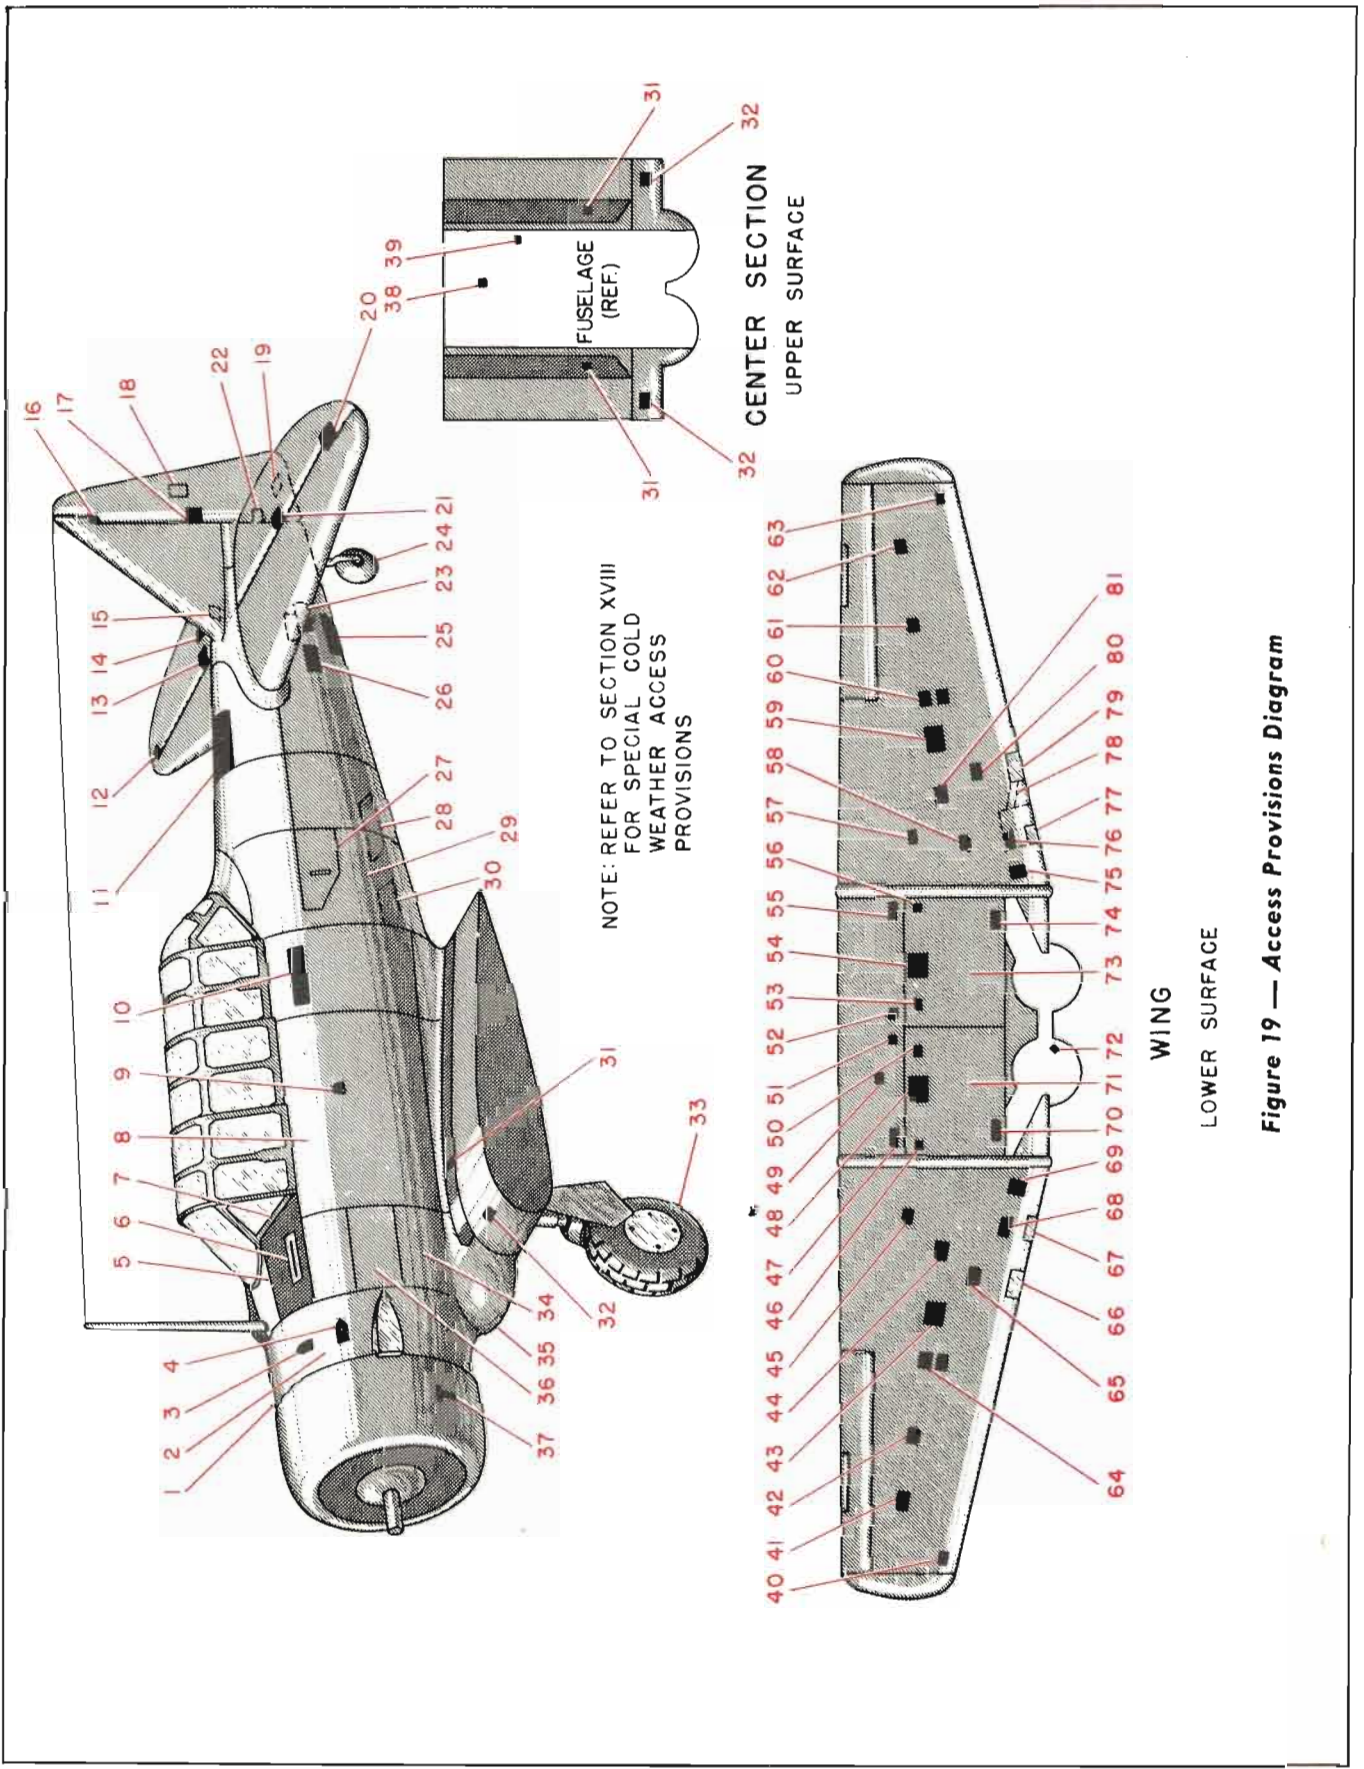

Figure 19 — Access Provisions Diagram
Key to Figure 19
The access provisions diagram, figure 19, includes a list of all access doors, covers, and parts accessible therein.
(3) DRAINING FUEL SYSTEM.—To drain the complete fuel system, remove the stand pipes and corrosion-resistant capsules from the two sumps. Open the drain cock at the fuel unit and at the bottom of the fuel selector valve. The latter is the lowest point in the fuel system when the airplane is in a three-point position. Access to the drain cocks is provided by means of Dzus-fastened access covers. (See figure 19.) Drain the carburetor. Clean the strainers in the fuel unit and at the top of the carburetor and also the screen on the standpipes. Access to the drain cocks is provided by means of access holes in the lower surface of the center section. Drain the fuel unit strainers by means of a drain cock at the bottom of the fuel unit located at the lower forward side of the fire wall. An access cover is provided on the engine compartment cowling below the fuel unit. To remove possible accumulation of water and foreign matter from the system open the drain cocks daily, as instructed above.